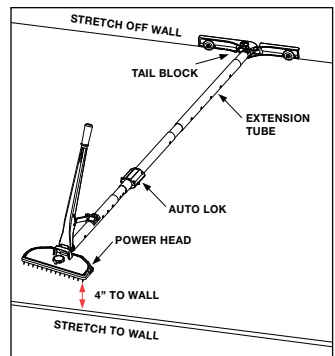

Figure 1
- A. Place the Power Head 4 inches from the starting wall at the prescribed angle for the kind of carpet you are installing. (See figure 1.) See stretch pattern diagrams on pages 4-6 for general rules, but always follow the carpet manufacturer's recommendations.